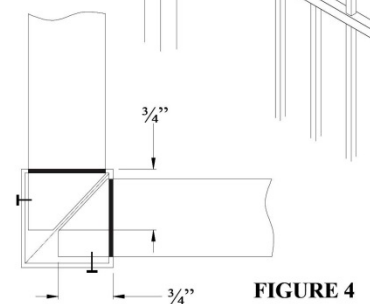
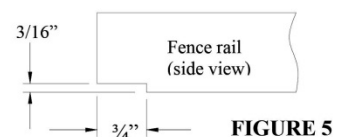

FIGURE 4
FIGURE 5
4. Fence rails will need to be mitered for corner posts. See Figure 4. Fence sections may be cut to length as necessary. Cut fence sections will need to be notched as shown in Figure 5.